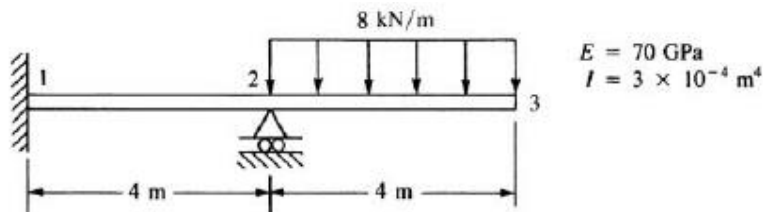

Figure 5
- (b) For the beams shown in Figures 5, derive (1) Global stiffness matrix; (2) Global displacement vector (specifying boundary conditions); (3) Global load vector; (4) Write governing equation of beam. 07